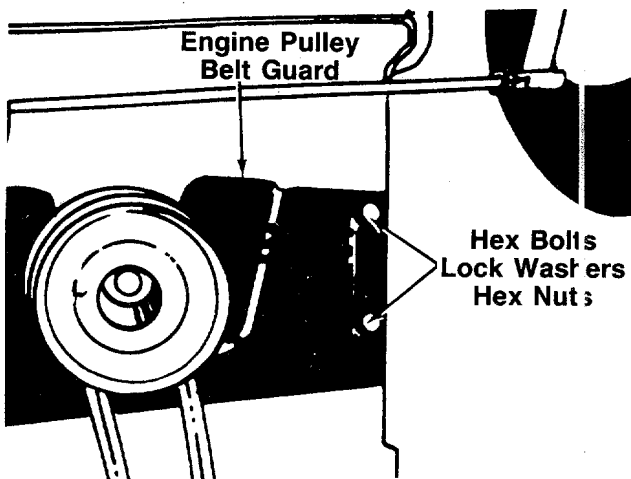

FIGURE 20.
Figures 20 through 22 are shown with the unit tipped up for clarity. It is not necessary to tip the unit to remove the belts.
- Remove the two bolts, lock washers and nuts on each side of the frame which hold the engine pulley belt guard to the frame. See figure 20.